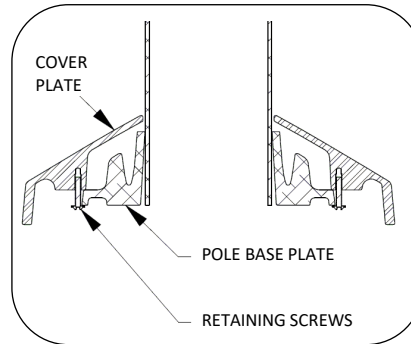

Fig. 7 – cover plate section
11. Install the cover plate as shown in Fig. 7 and 8. Use a 5mm hex key to tighten internal socket head cap screws to secure the two halves together.